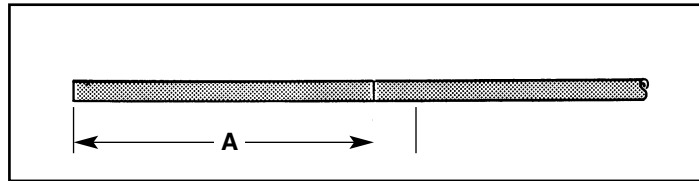

Figure 3
4. For first bend, measure from end of tube and mark at blueprint dimension. (Figure 3)